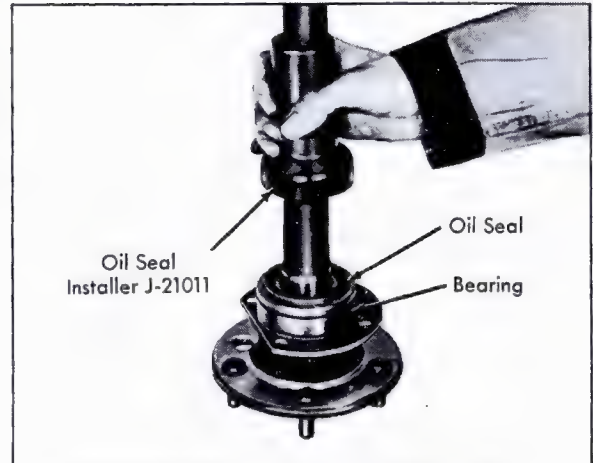

Fig. 4-32 Installing Oil Seal in Bearing
6. Install new oil seal on axle shaft with spring side of seal toward splined end of shaft. Position seal in bearing and press seal into bearing using Oil Seal Installer, J-21011, as a slide hammer, Fig. 4-32, until metal case of seal is flush with top of bearing.